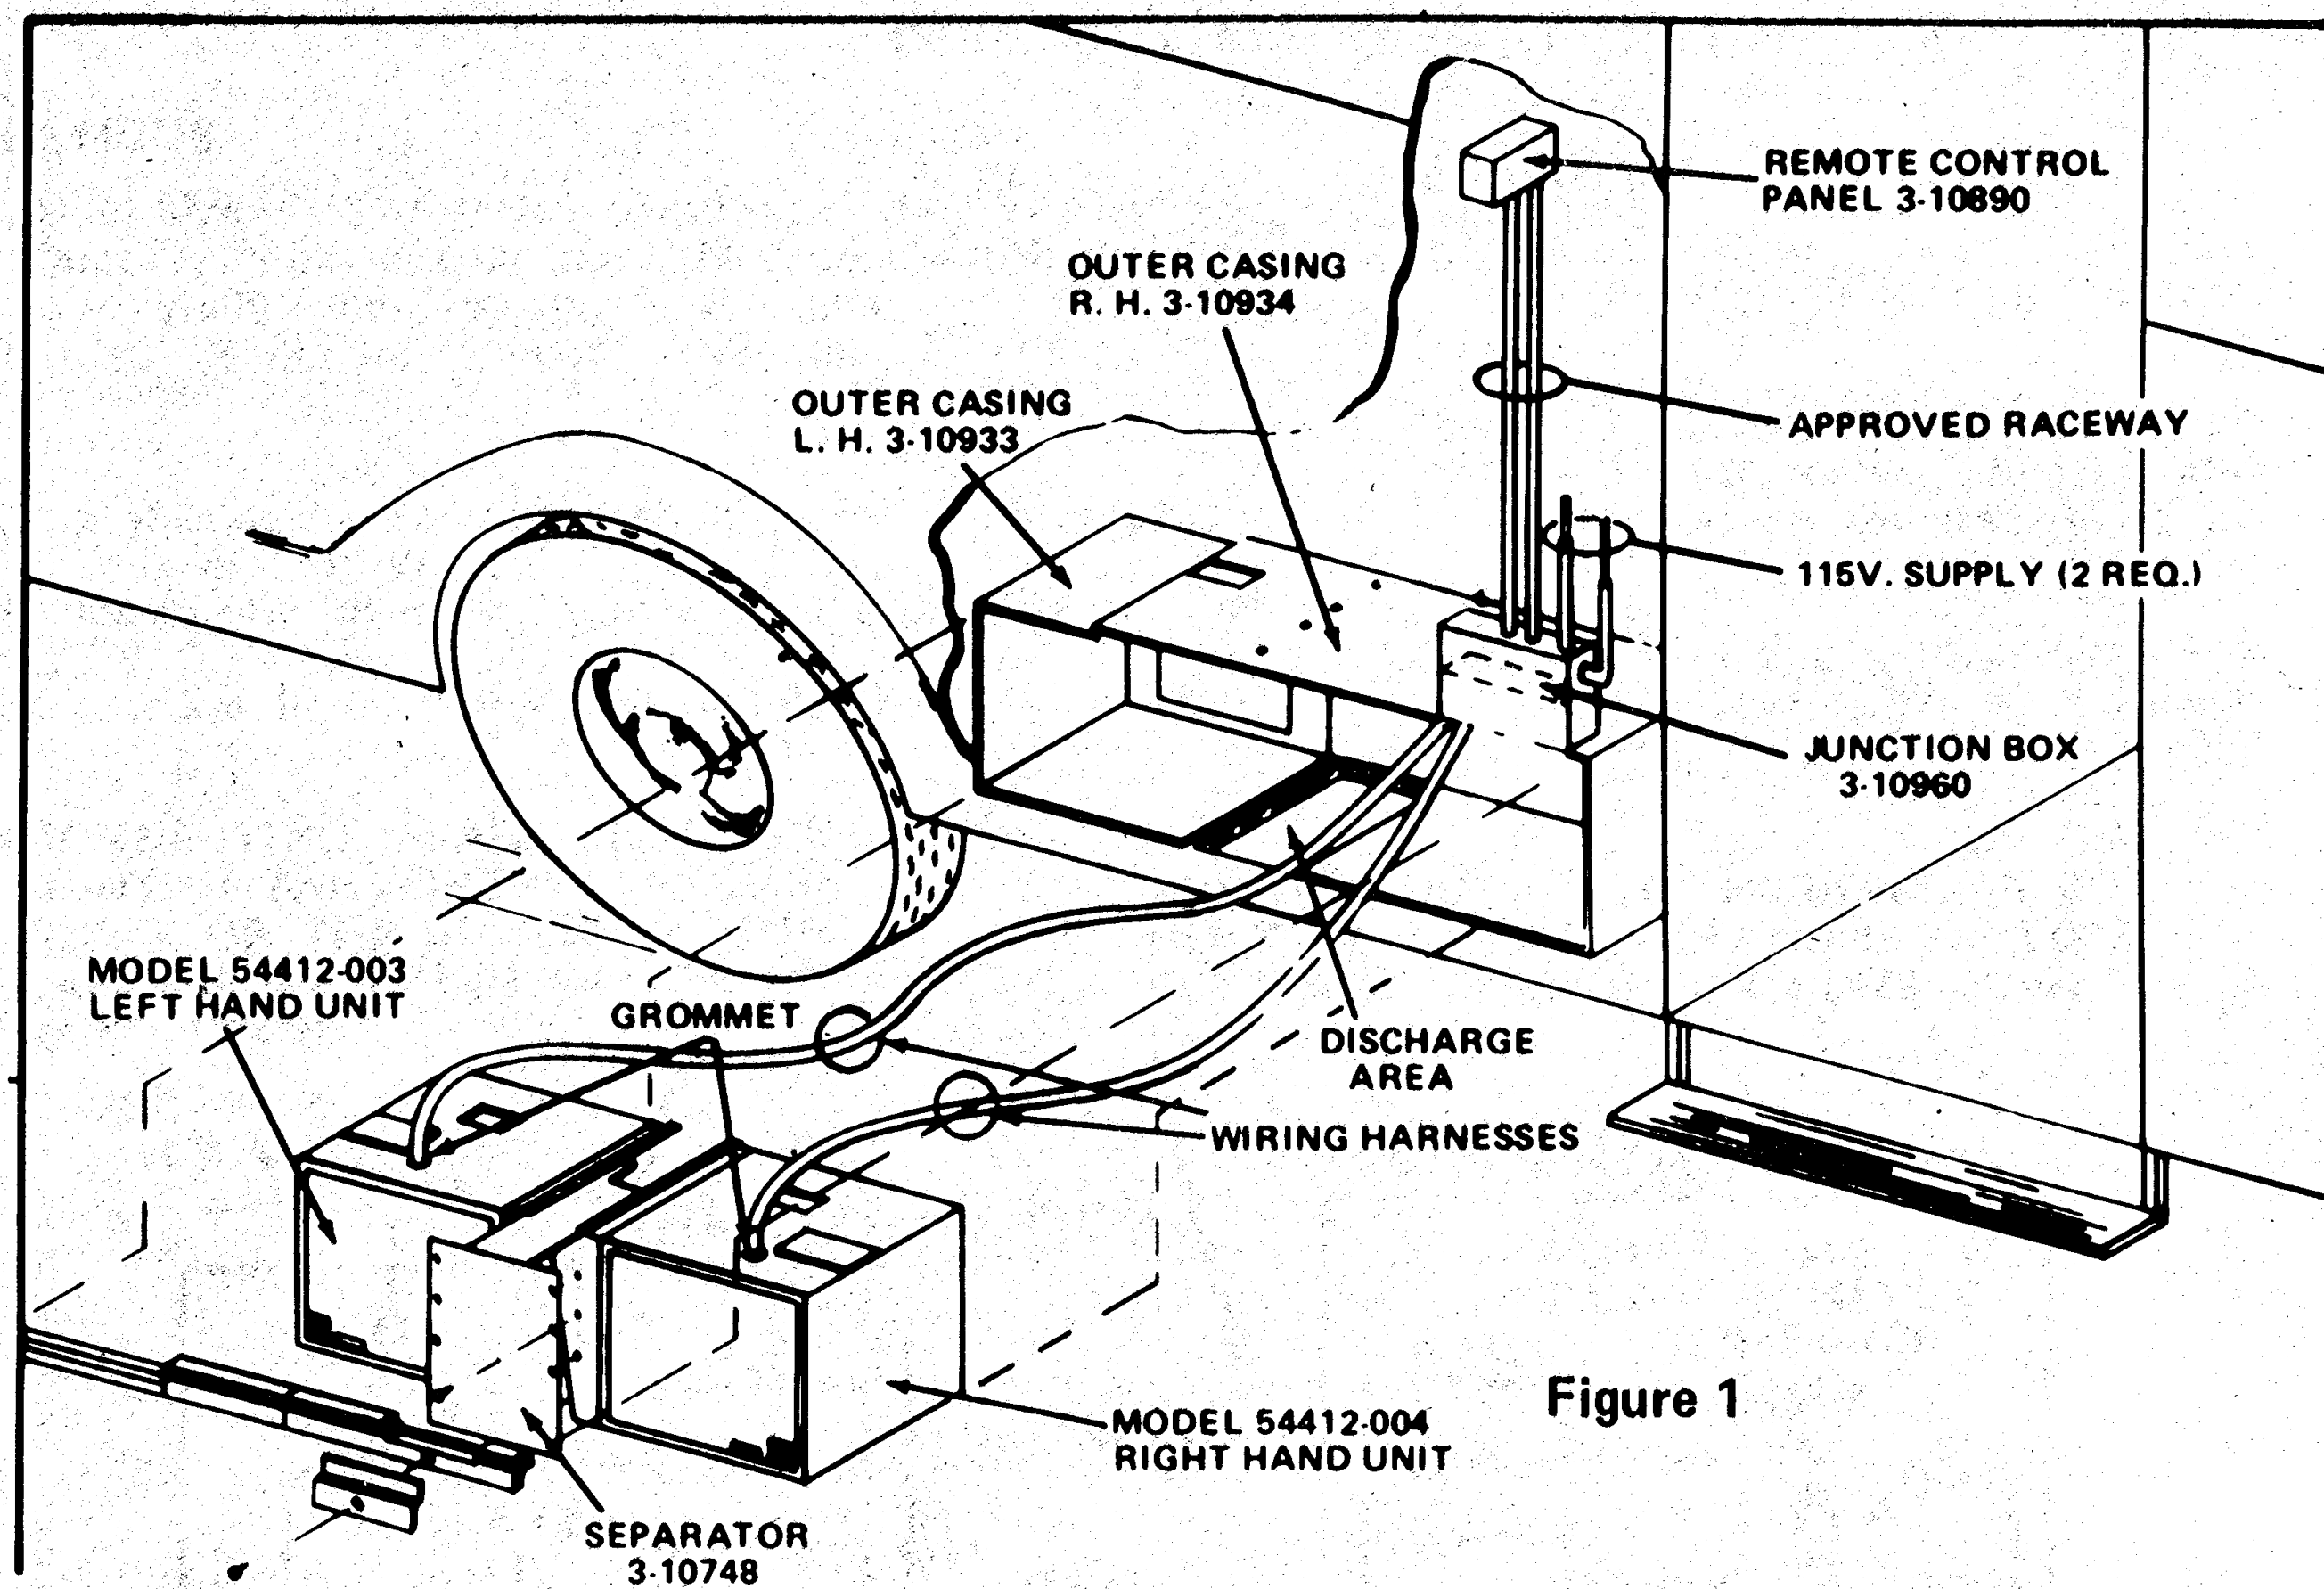

Figure 1
PROVIDE AN ADEQUATE DISCHARGE OPENING IN THE FLOOR OF COMPARTMENT. OPENING MUST BE AT LEAST 10" x 18" AS SHOWN IN FIGURE 1.
3. Slide outer casing assembly into compartment and position discharge area over cut-out in floor. Secure outer casing to vehicle floor, partition, etc. Fasteners must be flush on inside of casing. See Figure 1.